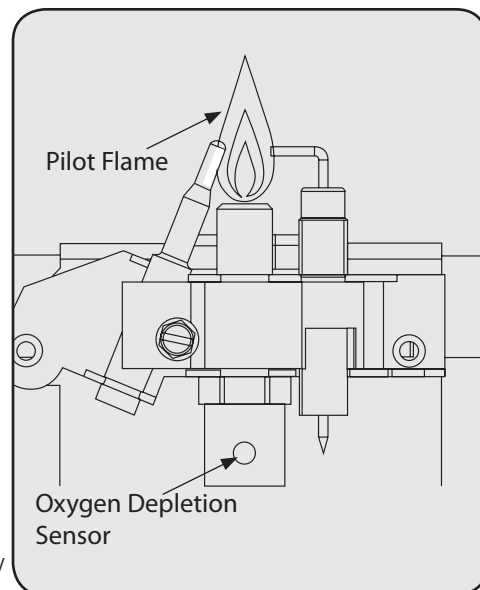

Figure 1
- Visually inspect the pilot flame and burner periodically during use. The pilot flame should be blue in color (not yellow) and will extend to the thermocouple. The flame will surround the thermocouple just below the tip, see Figure 1.